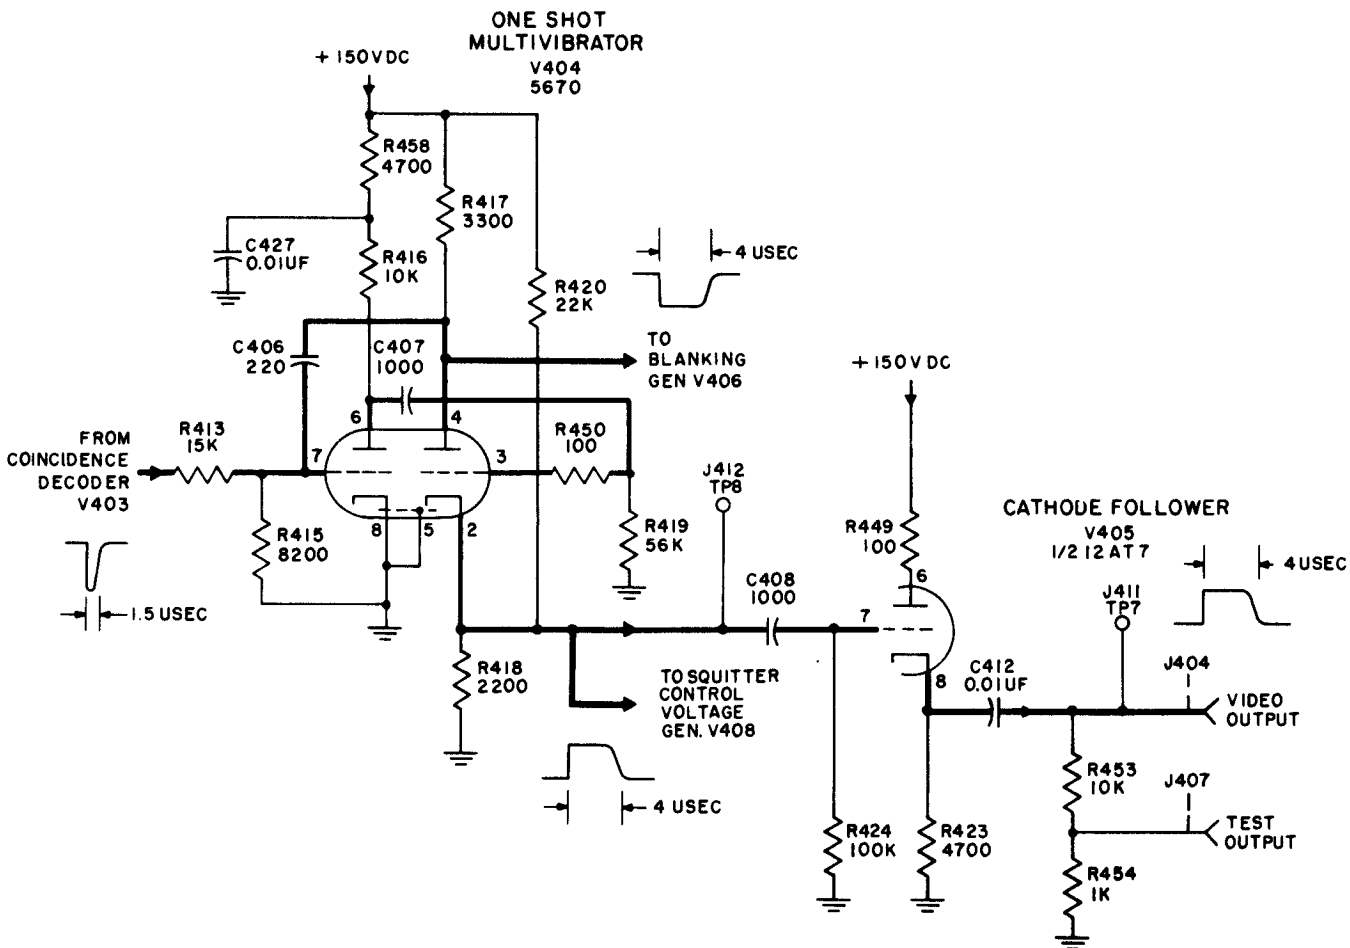

Figure 4-20. Radio Receiver R-824/URN, One-Shot Multivibrator and Receiver Output, Simplified Schematic Diagram
**(f) ONE-SHOT MULTIVIBRATOR.** – One-shot multivibrator V404 (figure 4-20) is triggered once for each pulse received from the decoder tube. The pulses out of the one-shot multivibrator are all of equal amplitude and width. Stage V404 output is routed to three different stages. The plate (4) output of tube V404 is fed to blanking one-shot multivibrator V406. The cathode (2) output is routed to two different stages: one to pulse amplifier V408 (squitter-voltage generator stage) and the other to cathode follower V405 (receiver output to the coder-indicator).
(i) RECEIVER OUTPUT CATHODE FOLLOWERS. — The third output of V404 is to cathode follower stage V405 (figure 4-20). V405 is a twin triode; one triode output is not used at this time. The